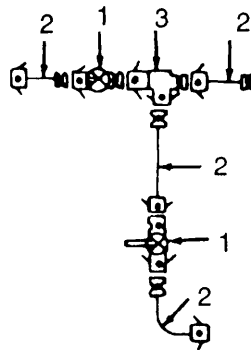

Figure 4-8. Butterfly Valve Assembly, Removal/Installation.
- a. **Removal.** (Refer to Figure 4-8.)
- (1) Pull up on the camlock lever rings.
- (2) Remove butterfly valve assembly (1) from suction hose assembly (2) and tee assembly (3).
- (3) Install dust cap and dust plug. Secure dust cap and dust plug with camlock levers.
- (1) Refer to Figure 4-8 and pull upon camlock lever and remove dust cap and dust plug.
- (2) Position butterfly valve (1) on tee assembly (3) and secure by pushing down on camlock levers.
- (3) Connect suction hose assembly (2) to butterfly valve and secure by pushing down on camlock levers.